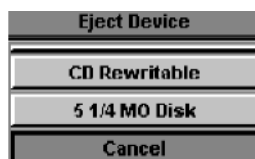

Figure 4-6 Eject Device Menu
Press **<Alt> + E** on the alphanumeric keyboard to display the Eject Device menu (Figure 4-6).
- 6.) Press **<Alt> + E** on the alphanumeric keyboard to display the Eject Device menu (Figure 4-6 on page 4-13)